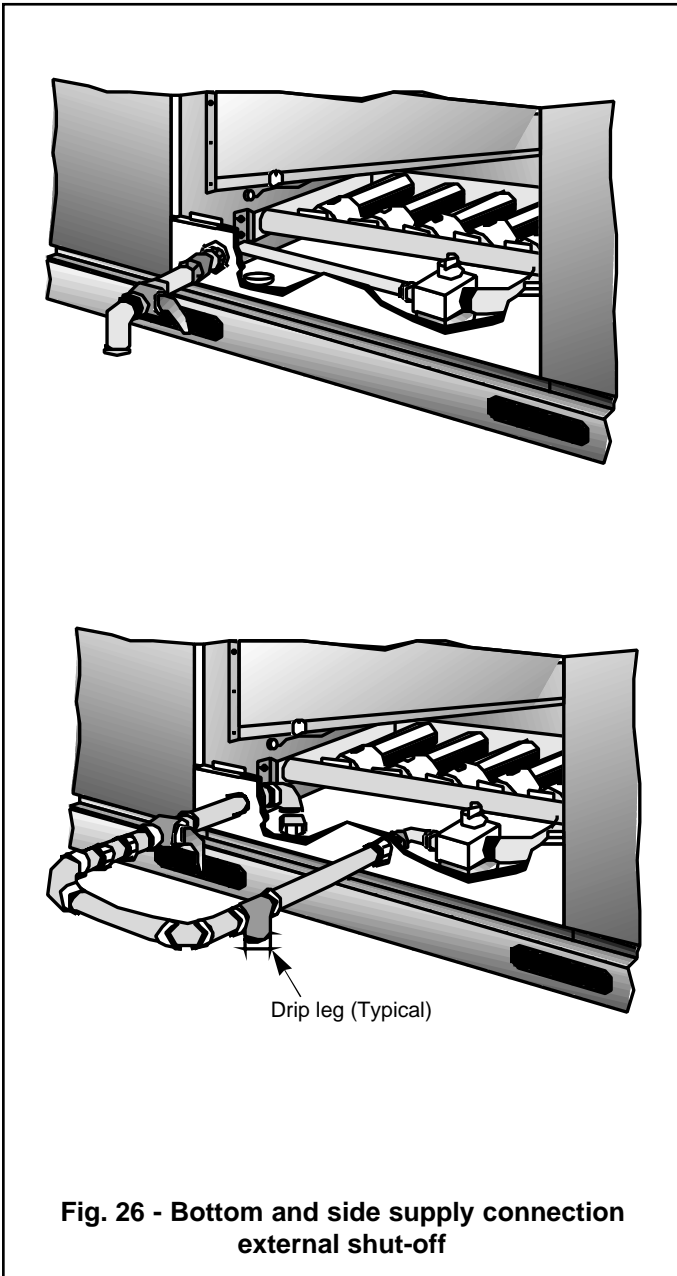

Fig. 26 - Bottom and side supply connection external shut-off
The gas supply line can be routed through the knockouts located on the front of the unit or through the opening provided in the unit's base. Refer to figure 10 to locate these access openings. Typical supply piping arrangements are shown in figure 26.
If gas supply pressure is above the Gas Pressure Switch (GS) setpoint, the Ignition Control (IC1) is energized and the ignition sequence begins. Refer to figure 26 for typical gas valve piping.